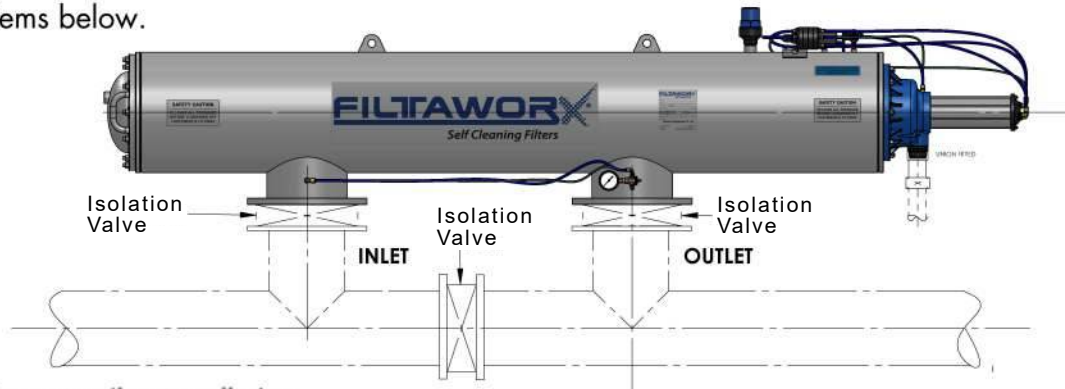

Figure 6 - Filter Installation
7. Please see Figure 6 below for a typical installation, the filter can be installed in any orientation and the cover lid can be rotated to suit drain exit. Please note the critical items below.